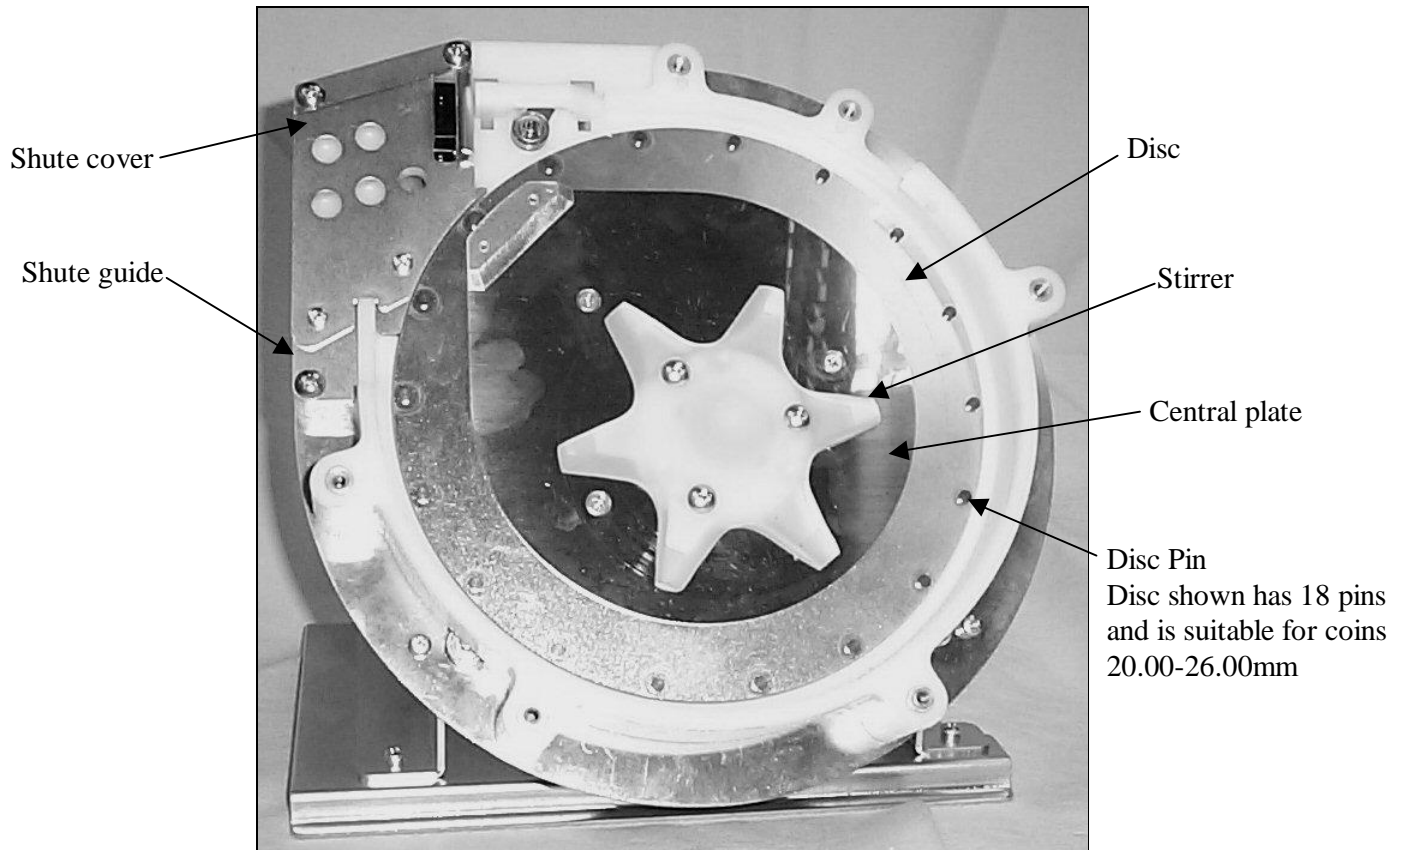

Figure 6.2.1 Hopper with bowl removed
6.2 Conversion procedure (refer to figure 6.2.1.)